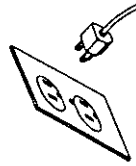

Figure 1-1
- UNPLUG garage door opener. (Figure 1-1)